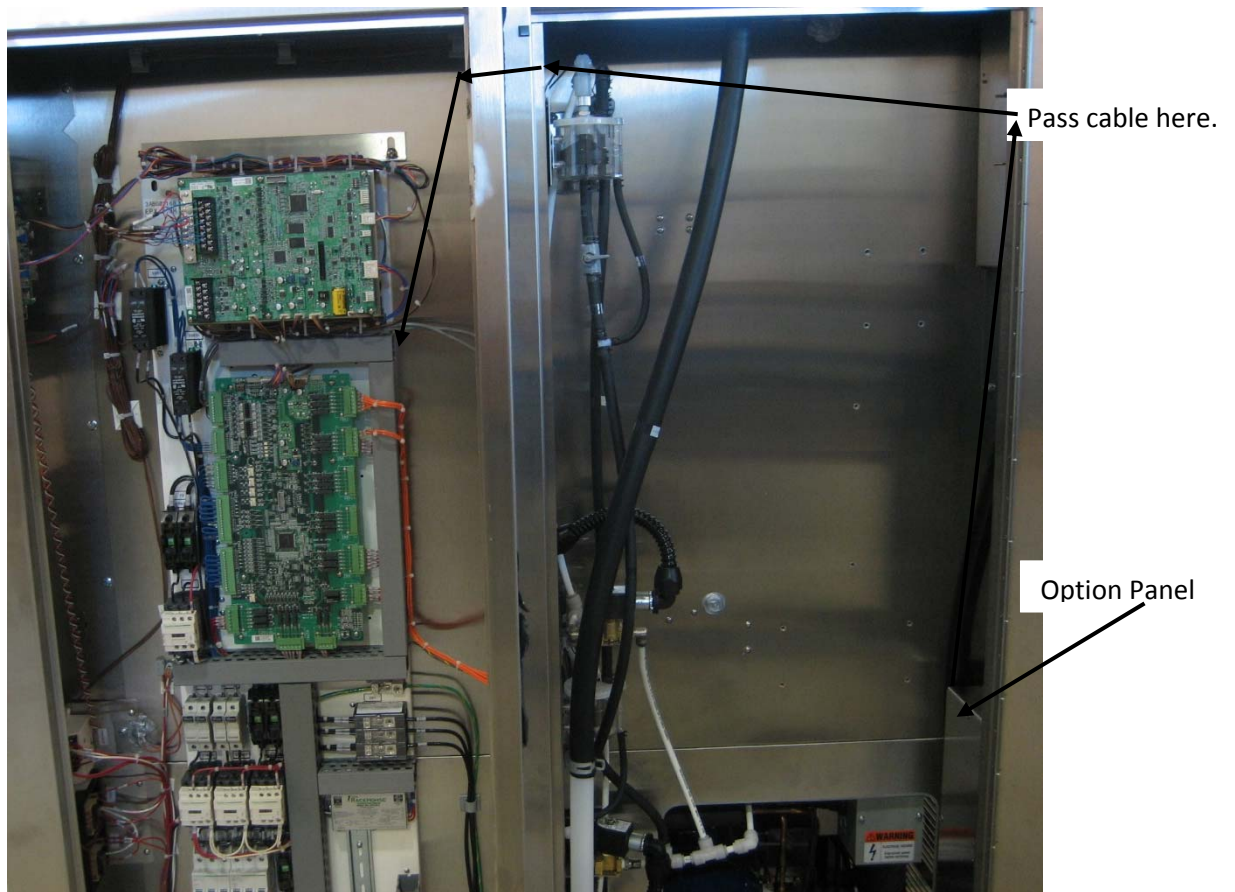

Figure 3: RS232 Cable Routing
6. Remove the back of the option panel (accessible in the water box) and connect the RS232 cable 5AAG0572 to the communications plate installed in step 5. Route RS232 cable through the hole on the left side of the option panel box, through the water box through the hole on the top left of the water box/electrical box, and connect cable to the RS232 interface board (see Figure 3).